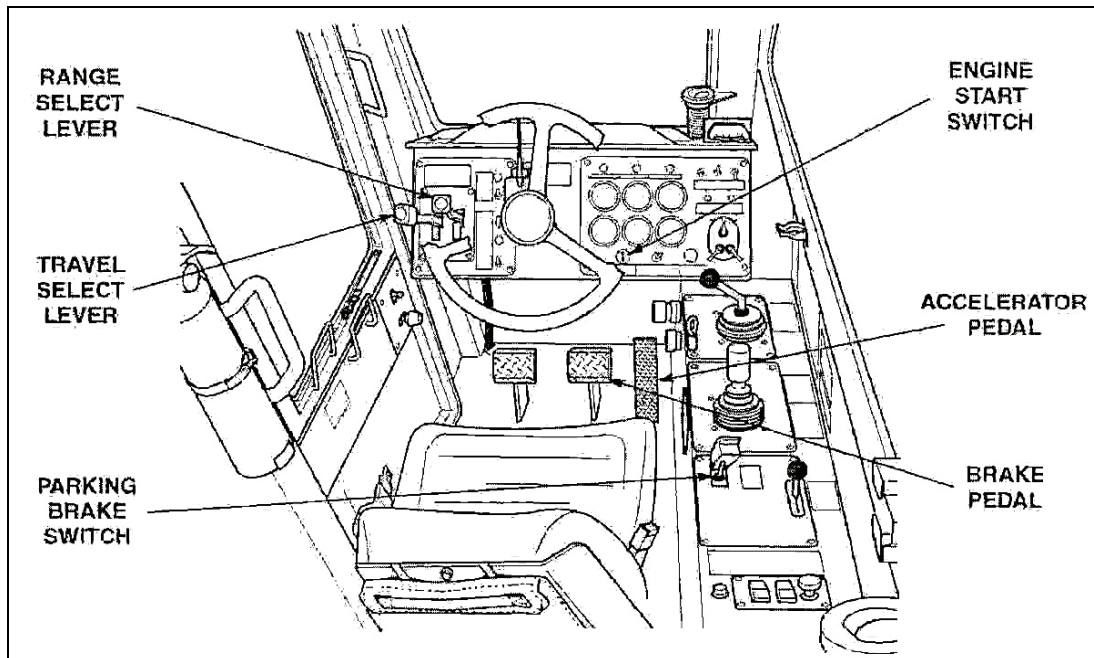

Figure 3-52. Starting the Engine
1. Start the engine (see Figure 3-52).